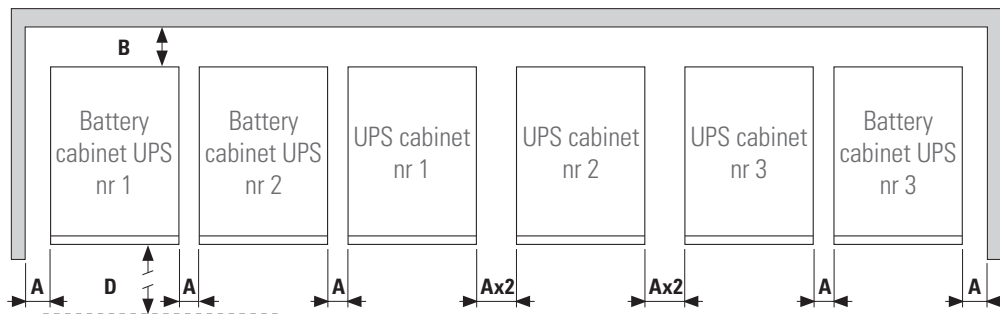

Fig. 15. Minimum distances for a correct UPS system cooling.
- As an example of three equipments in parallel, Fig. 15 shows them with their battery case. For systems with two equipments in parallel and/or more battery modules proceed accordingly in the same way. Likewise, obviate the illustration of the battery modules when they are not available. The numbering of the equipments in Fig. 15 doesn't have any purpose less than number each unit in the illustration.